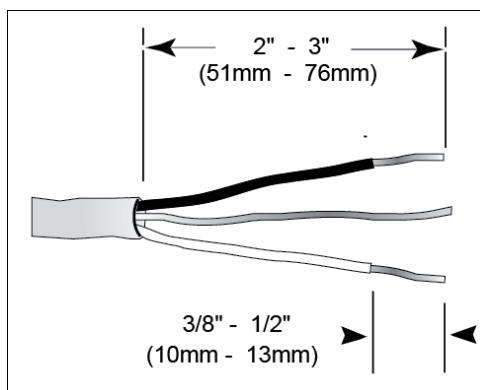

Figure 7
2. Remove 2" to 3" (51 – 76 mm) of the outer casing of the household or field supply wiring as shown in Figure 7. Remove 3/8" to 1/2" (10 – 13 mm) of the insulation from each wire as shown in **Figure 7**.